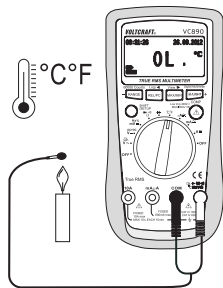

Fig. 9
2. Press the SHIFT/SETUP button (3) to switch to a display in °F.
3. Insert the thermosensor with the correct polarity with the plus pole in the °CHzVΩ measuring socket (7) and the minus pole in the COM measuring socket (8) (Fig. 9).